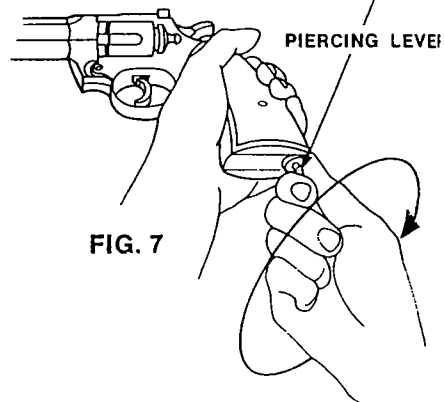

FIG. 7
- C. With thumb and finger, turn Piercing Lever clockwise to pierce CO₂ Cylinder. Fig. 7.